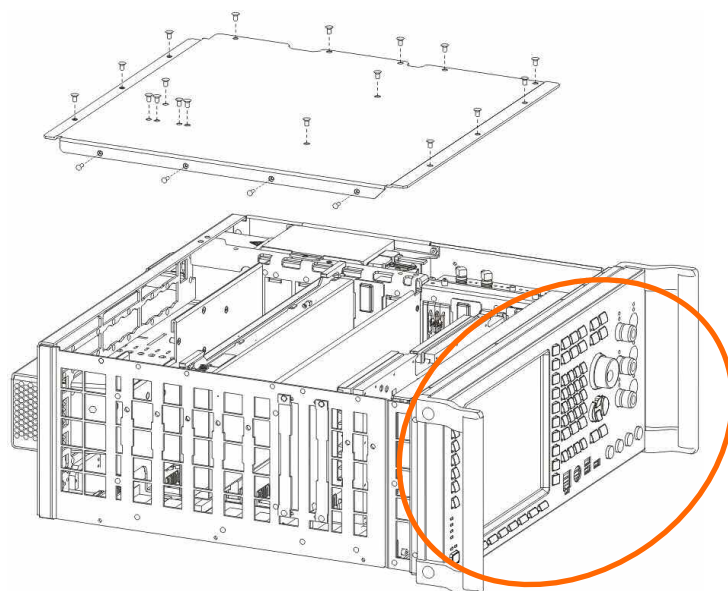

Figure 4 Removing the cover
Note: It is not necessary to open the instrument as described on this page if the replacement concerns the front of the instrument (FRONTCOVER, FRONTMODUL CONTROLLER, FRONTPANEL, DISPLAY and associated) -> symbolized by the orange highlighted area in Figure 4.
7. Undo the screws at the cover and lift it off (see Figure 4).